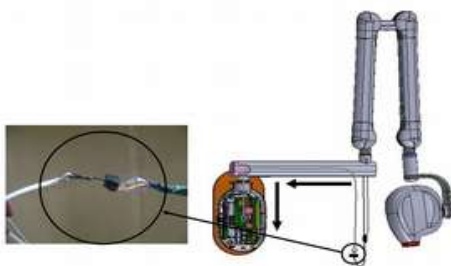

Figure 29
- Tie the end of the cables to the guide wire with magic twister as shown in Figure 29.